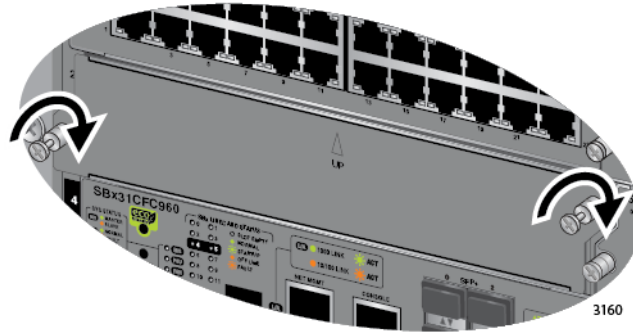

Figure 95. Tightening the Thumbscrews on a Blank Slot Cover
2. Finger tighten the two thumbscrews to attach the blank panel to the chassis, as shown in Figure 95 on page 157.